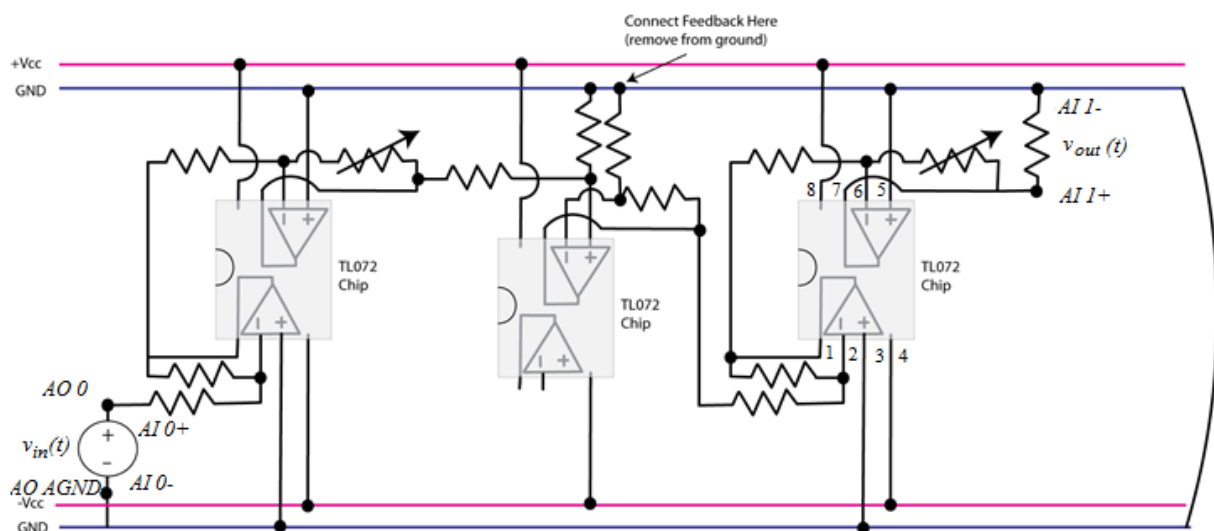

Figure 10: Proportional Control Schematic
1. In this part, you will add the proportional control to the system so that it now looks similar to Figure 10. Place another op amp on the board, with the dot on the left.